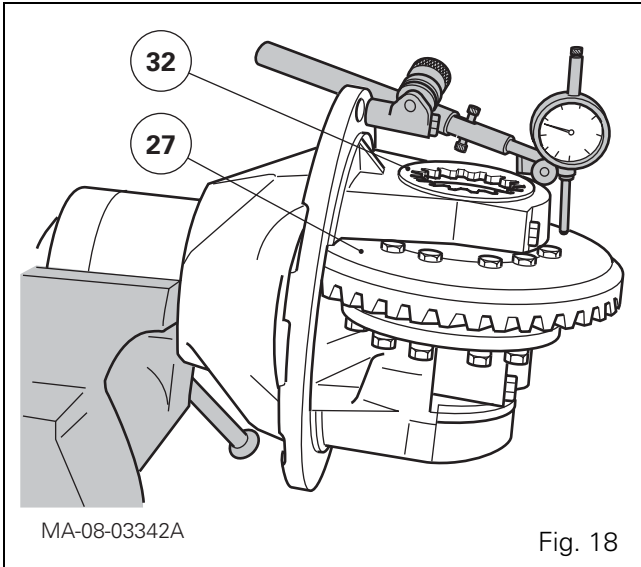

Fig. 18
71. Fit the unit horizontally in a vice with soft jaws, with the ring gear facing upwards (Fig. 18).
72. Position a dial gauge. Tighten the nut (32) (Fig. 18) and turn the ring gear (27) several turns to correctly seat the cones in the cups. Retighten the nut to eliminate the axial clearance.
73. After eliminating the axial clearance, tighten the nut (32) three more notches to obtain the correct preload.